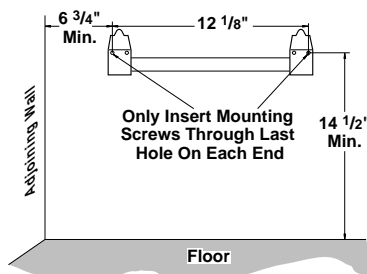

Figure 7 - Mounting Bracket Clearances
WARNING: Maintain minimum clearances shown in Figure 7. If you can, provide greater clearances from floor and joining wall.
2. Mark screw locations on wall (see Figure 7).